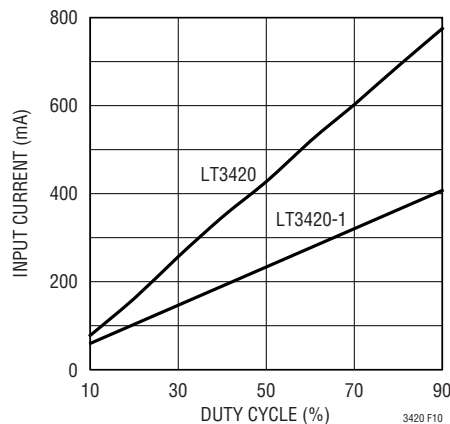

Figure 10. Input Current as Duty Cycle is Varied
1kHz. When ON is logic high, the circuit is enabled and the CHARGE pin is driven by the PWM signal. When the target output voltage is reached, DONE goes high while CHARGE is also high. The output of A1 goes high, which forces CHARGE high regardless of the PWM signal. The part is now in the Refresh mode. Once the refresh period is over, the DONE pin goes low, allowing the PWM signal to drive the CHARGE pin once again. This function can be easily implemented in a microcontroller. Figure 10 shows the input current for the LT3420 and LT3420-1 as the duty cycle of the PWM signal is varied.
Figure 10 is a line graph titled "Efficiency vs. Load Regulation". The y-axis is labeled "EFFICIENCY (%)" and ranges from 40 to 90 in increments of 10. The x-axis is labeled " V_{OUT} (V)" and ranges from 50 to 350 in increments of 50. There are two data series represented by solid lines. The first series is labeled " $V_{IN} = 5V$ " and starts at approximately 80% efficiency at 50V, remains relatively flat until about 150V, and then gradually decreases to about 72% at 300V. The second series is labeled " $V_{IN} = 3.3V$ " and starts at approximately 75% efficiency at 50V, rises slightly to a peak of about 77% around 125V, and then decreases to about 69% at 300V. At the top of the graph, the text " $V_{CC} = V_{BAT} = V_{IN}$ " is displayed.